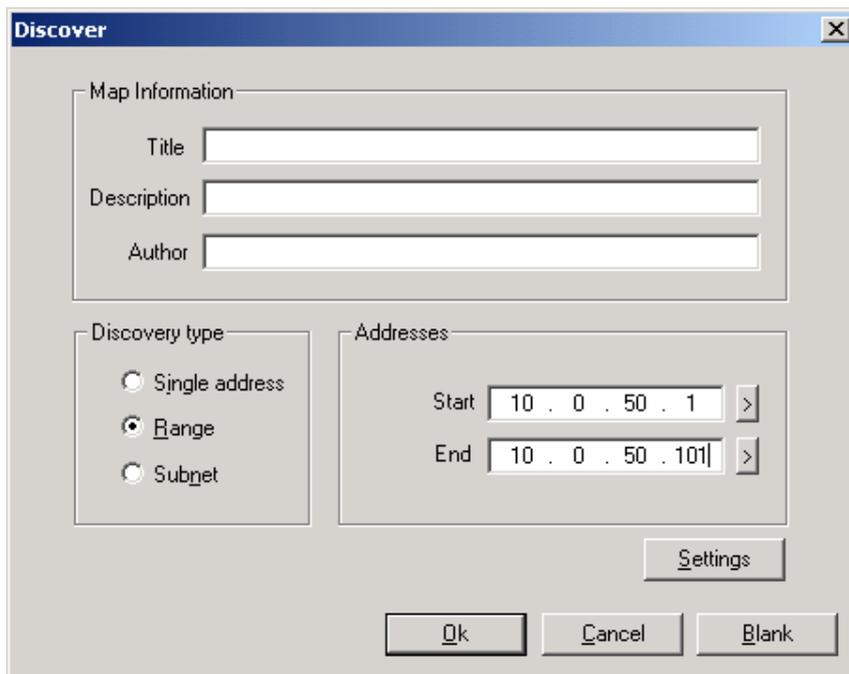

Figure 5.1 NetworkView-IP discovery parameters setup
1. Click on the  button to open a new file. The following screen shall appear, on **Addresses field**, Enter in the IP address range for searching(Figure 5.1).